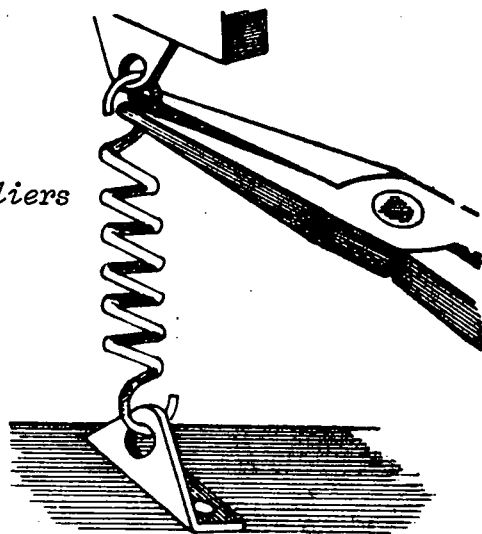

Fig. 1
- 1st Step - *Hold the end of the spring with the pliers. Pull it until the point is removed from its lodging (Fig. 1).*